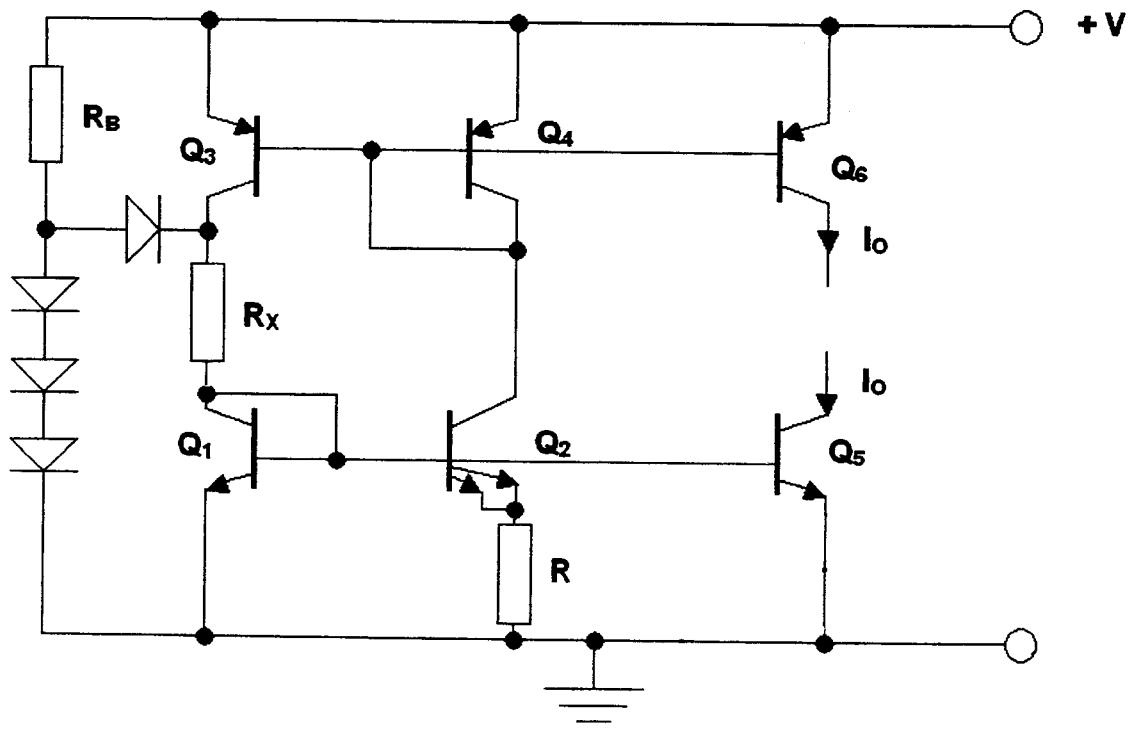

Figure 2.2
- (c) Calculate the fractional temperature coefficient for the constant current generator of Figure 2.2 at room temperature, given that R is a polysilicon resistor with a temperature coefficient of $1500 \text{ ppm}/\text{C}$. [4]